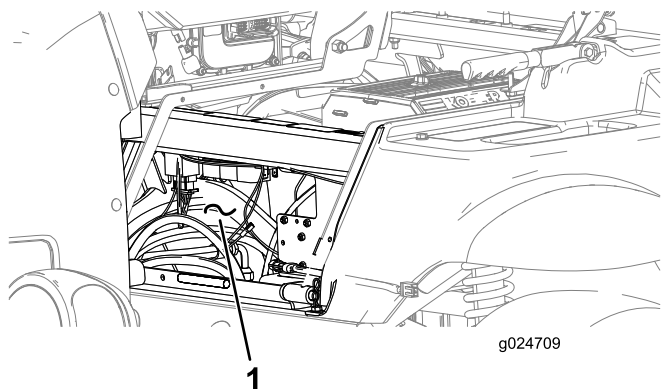

Figure 25
1. Route the harness through the front of the seat shroud (Figure 25).